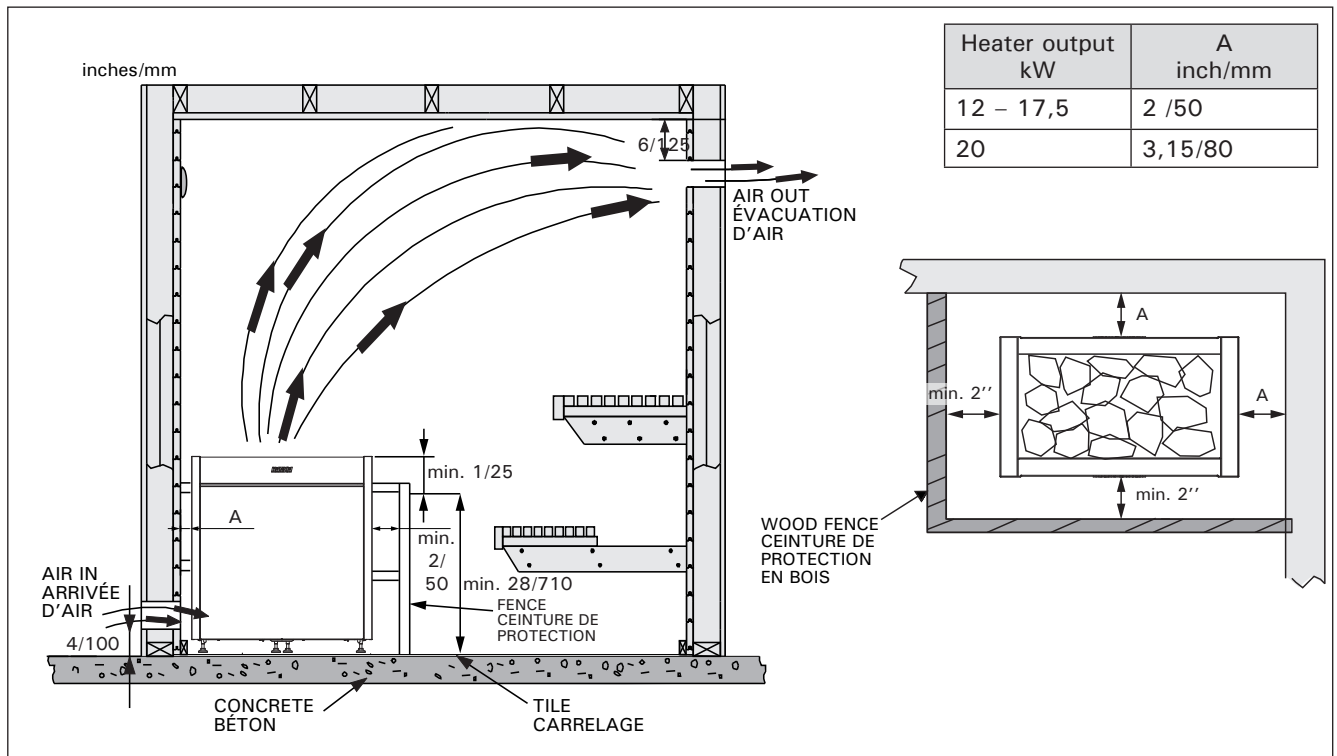

Figure 3. Ventilation of the sauna room and min. clearances from wall and fence
Should be provided by lower vent close to heater, 4" (100 mm) from floor, and upper vent on opposite wall (if possible) 6" (150 mm) from ceiling or as low as 24" (600 mm) from floor. Vents should be adjustable and should allow air to change 5 times per hour. Sauna shall be provided with intended ventilation as required per the local code authorities. See figure 3.
The minimum safety distances are described in figure 3 and 5.
It is necessary for safety and should be constructed of softwood to match sauna interior. See figures 3 and 5 for clearances from sauna heater. Fence should be attached to wall and should not be placed higher than top of heater below rock line.
1. Remove heater from carton and place in proper location in sauna room. Observe proper clearances as per figures 3 and 5.